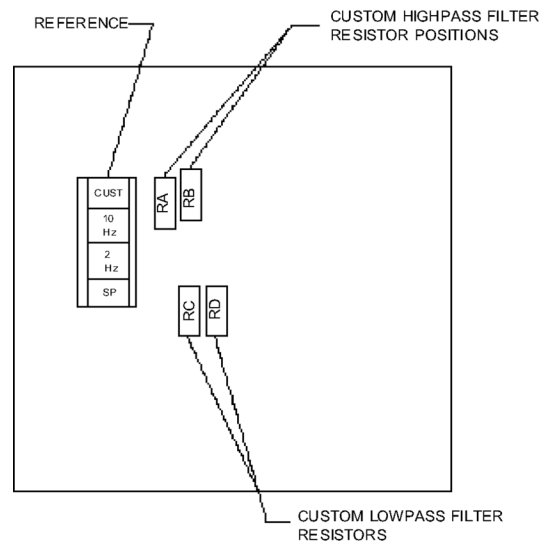

FIGURE 6-2: RESISTOR POSITIONS
4. Install the resistors. (See Figure 6-2 for resistor locations).
3. Install the resistors. (See Figure 6-2 for resistor locations).